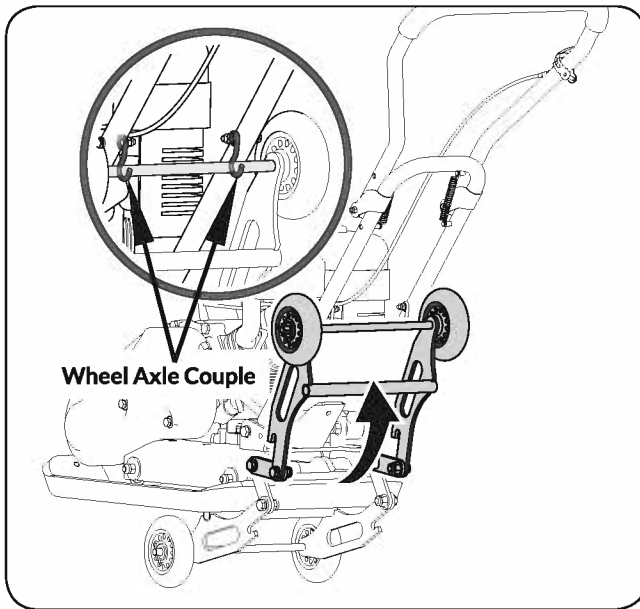

Figure 3b
2. Before compacting, fold up the Wheel Kit. (See **Figure 3b**)